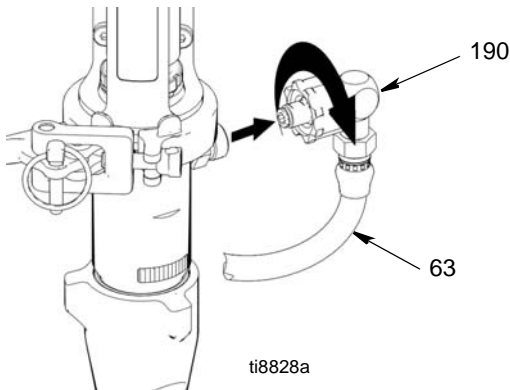

FIG. 14
- 4 (Fig. 14) Remove paint hose fitting (190) and paint hose (63) from pump fitting.